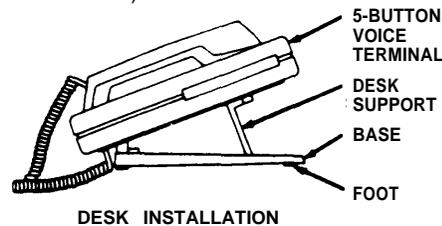

Figure 3
9. Turn the voice terminal over and place on desk or table (see Figure 3).